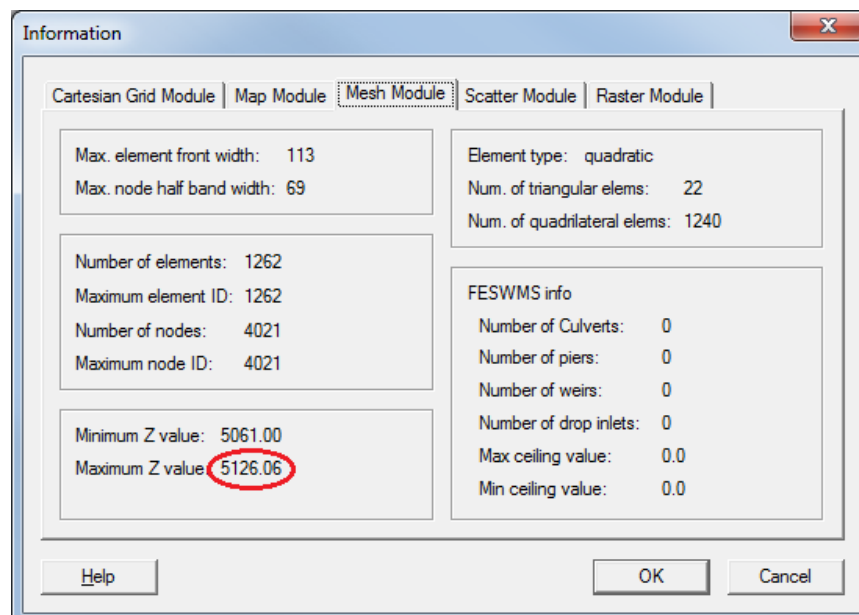

Figure 8 Mesh Information dialog with Maximum Z value highlighted
2. On the *Mesh Module* tab, look at the *Maximum Z value* (highlighted in Figure 8).